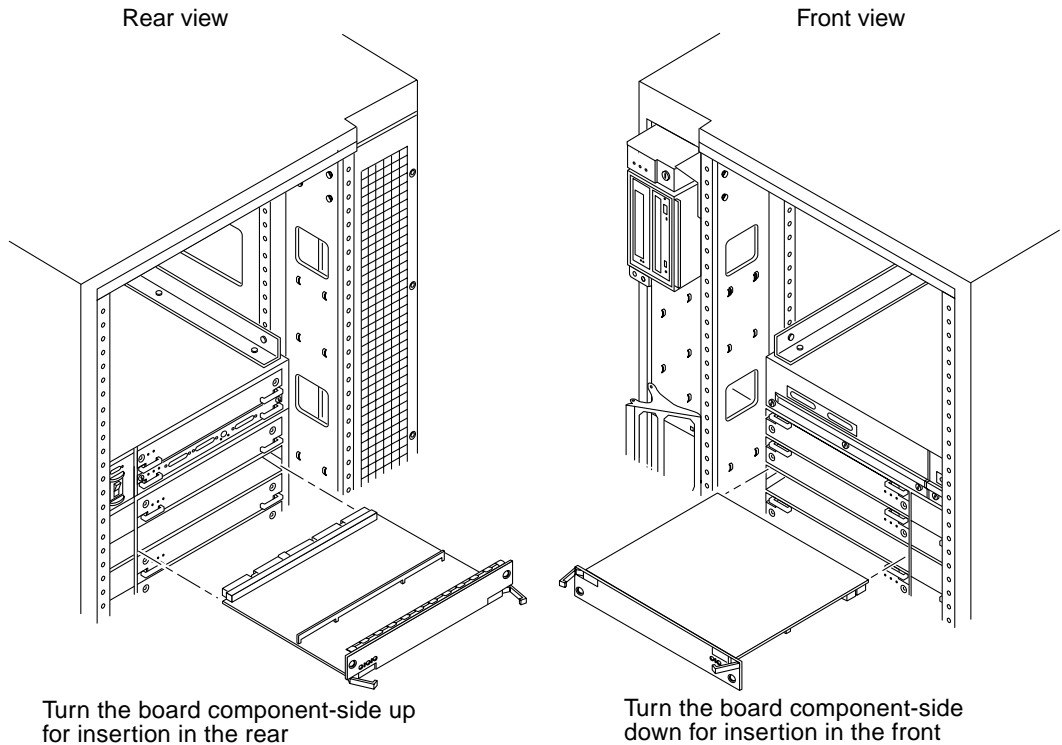

FIGURE 3-7 Board Replacement
For CPU/Memory+ boards being placed in the rear of the system, ensure that the component side is up. If the boards are placed in the front of the system, ensure that the component side is down (FIGURE 3-7).
1. Carefully insert the board (component side down if in front; component side up if in the rear) in the proper slot in the card cage, ensuring that the board does not slip out of the left and right card guide (FIGURE 3-7).